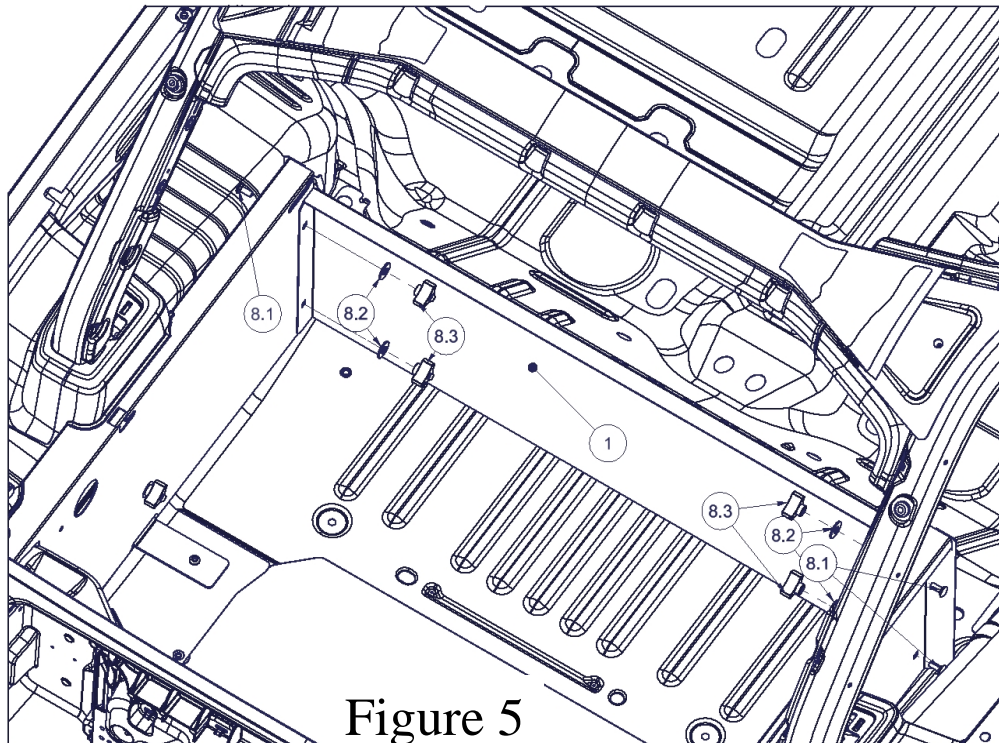

Figure 5
6. Install the #1 Front Panel to the #3 and #4 Side Panels using (4) #8.1 Carriage Bolts, (4) #8.2 Washers, and (4) #8.3 Knob Nuts, as shown in Figure 5.